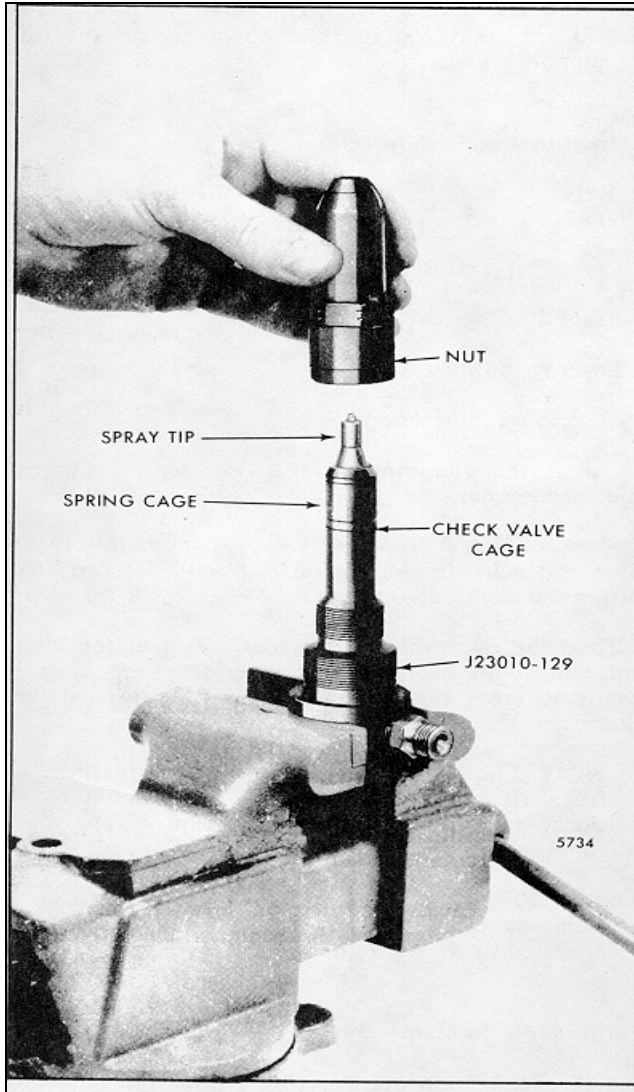

Fig. 14 - Assembling Injector Valve Parts on Tip Tester Adapter J 23010-129
2. Carefully pilot the injector nut over the spray tip and valve parts and thread it onto the adapter (Fig. 14).